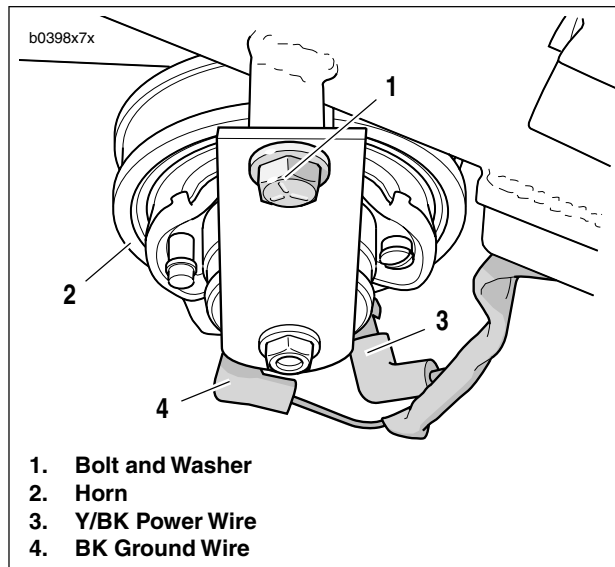
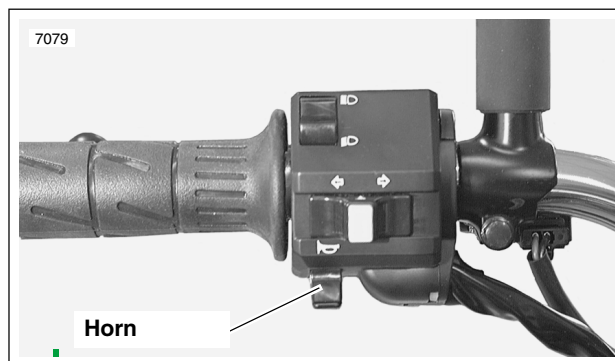

Figure 7-73. Horn Assembly
Figure 7-74. Horn Switch Location
2. See Figure 7-73. Remove bolt and washer (1).
3. Remove horn (2) from frame. Detach Y/BK power wire (3) and BK ground wire (4) from terminal clips.
1. See Figure 7-73. Connect Y/BK power wire (3) and BK ground wire (4) to terminal clips.
2. Attach horn (2) to frame using bolt and washer (1).
- a. See Figure 7-73. Remove Y/BK power (3) and BK ground (4) wires from terminal clips.
- b. Connect voltmeter positive (+) lead to Y/BK (3) wire.
3. See Figure 7-74. Depress horn switch and observe voltmeter reading.